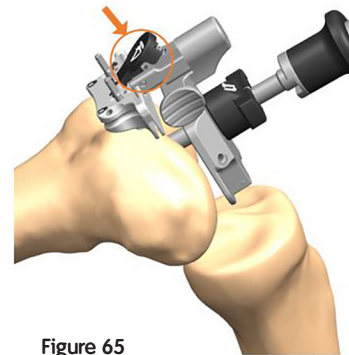

Figure 65
2. Push the button on the Valgus Bridge (Figure 65) to remove the alignment assembly from the incision site. Only the distal cutting block should remain on the femur.